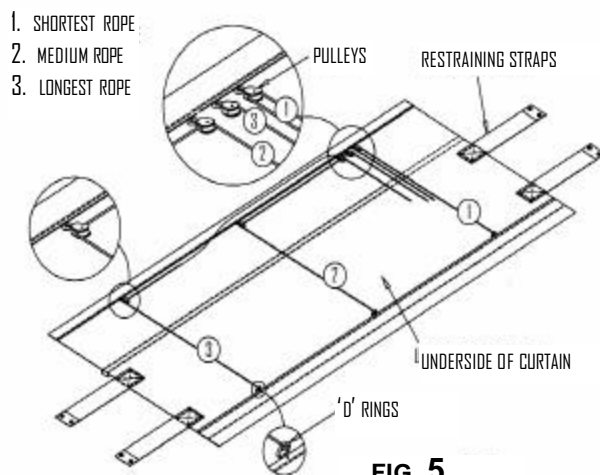

FIG. 5
- Feed pull ropes (3 different lengths) through the "D" rings and pulleys (Fig. 5).
- Each side of the header seal has one or two restraining strap(s) (Fig. 5) with two grommet holes each. These flaps should be mounted to the wood backing of the vertical seals using No. 14 wood screws.